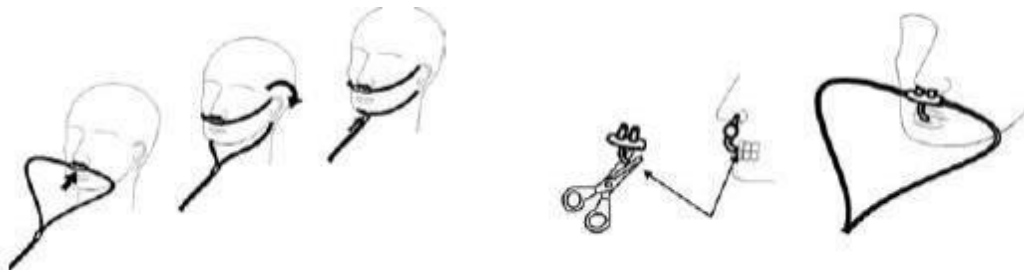

Figure 13-3
- (5) Place the nasal cannula kits onto the patient. Some patients are prone to mouth breathing. The Oral/Nasal sampling cannula should be used on these patients, as most, if not all of the CO2 is exhaled through the mouth. If a standard nasal CO2 sampling cannula is used with these patients, the ETCO2 number and capnogram will be substantially lower than actual. When using the Nasal or Oral/Nasal CO2 sampling kits with oxygen delivery, place the cannula on the patient shown in the picture below (left) and then attach the oxygen supply tubing to the oxygen delivery system and set the prescribed oxygen, shown as Figure 13-3.